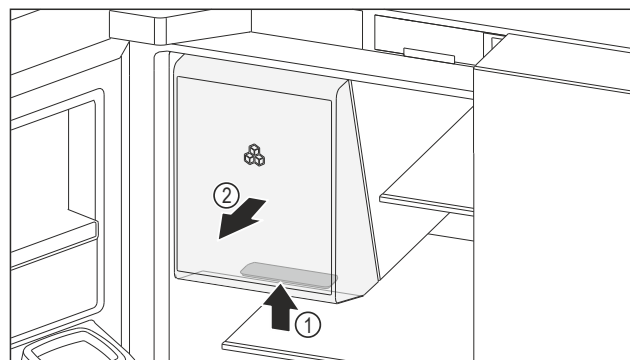

Fig. 155 Removal of the ice storage drawer
- ▶ Grip the handle recess Fig. 155 (1) on the bottom of the ice storage drawer and pull the ice storage drawer forward at the same time Fig. 155 (2).